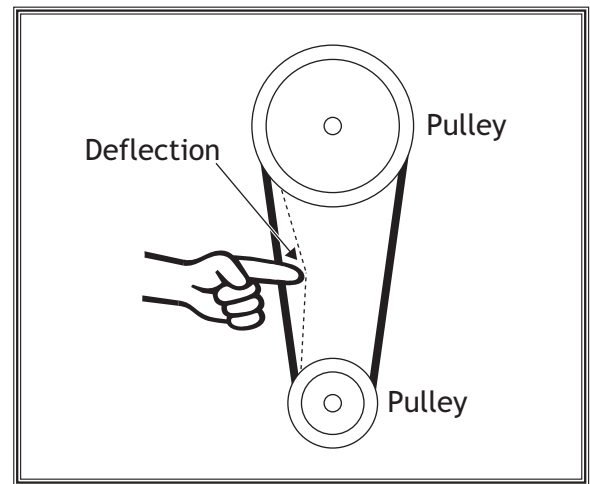

Figure 87. Check for proper belt tension.
5. Press the belt in the center to check belt tension. The belt is correctly tensioned when there is approximately $\frac{1}{4}$ " deflection as it is pushed with moderate pressure, as shown in **Figure 87**.